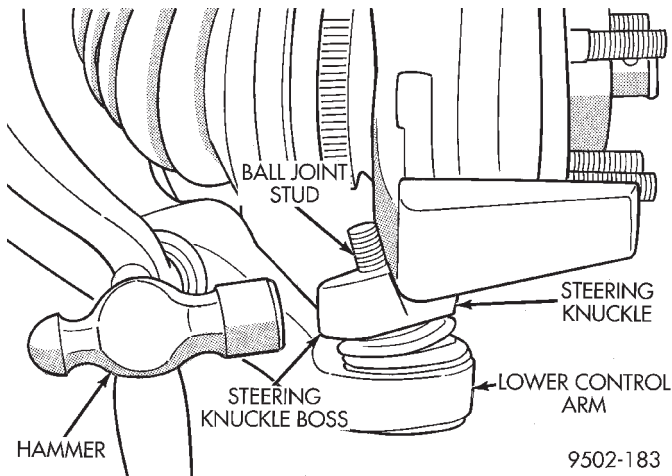

Fig. 68 Separating Ball Joint Stud From Steering Knuckle
(13) Turn steering knuckle so the front of the steering knuckle is facing as far outboard in the wheel well as possible. Using a hammer strike the boss on the steering knuckle, (Fig. 68) until steering knuckle separates from stud of lower ball joint. **When striking steering knuckle, care MUST be taken not to hit lower control arm or ball joint grease seal.**